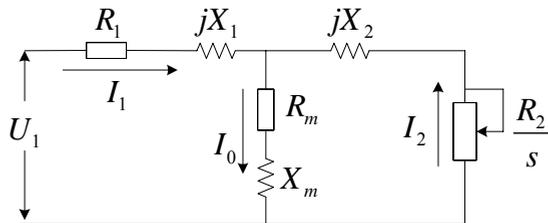

Fig. 5-10-1 Motor equivalent circuit
- ◆ See Fig 5-10-1 for details.
- ◆ In Fig. 5-10-1, R1, X1, R2, X2, Xm, and I0 represent resistance of stator, leakage inductance of stator, resistance of rotor, leakage inductance of rotor, mutual inductance and current without load respectively. The setting of PA.05 is the sum of leakage inductance of stator and leakage inductance of rotor.